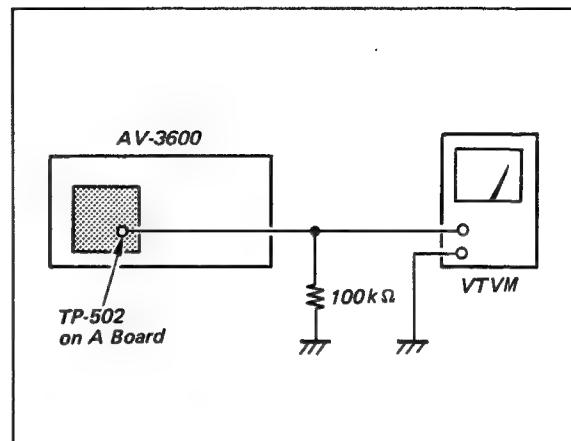

Fig. 7-2. Audio playback level and frequency response adjustment set-up
Set-up: See Fig. 7-2.
1. Connect the ac VTVM to TP-502 using a 100 kΩ load resistor as shown in Fig. 7-2.